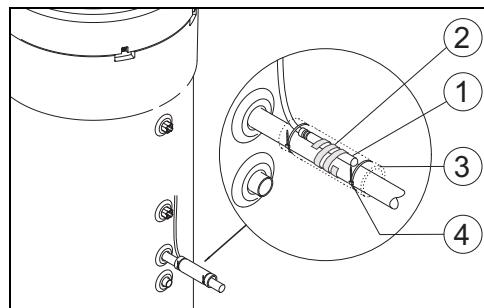

Fig. 8
- Position the temperature sensor connected to the accessories (Fig. 8, [1]) as shown in Fig. 8.
- Fasten the temperature sensor to the pipe using the plastic spiral supplied (Fig. 8, [2]).
- Wrap the temperature sensor in insulating material (Fig. 8, [3]).
- Secure the insulation using the 2 cable ties supplied (Fig. 8, [4]).